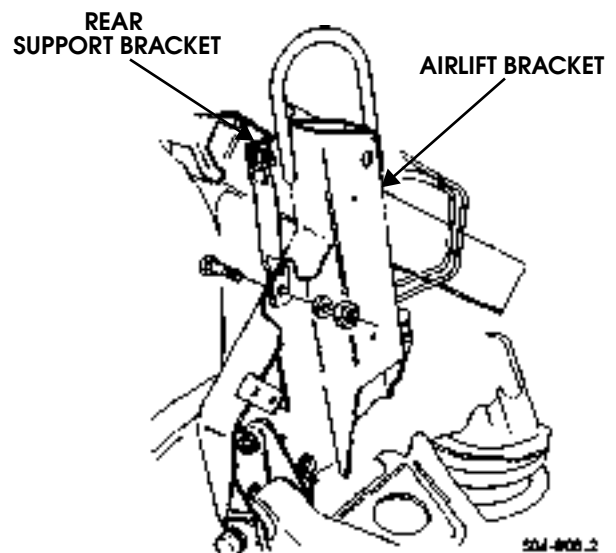

Figure 4-11: Rear Support Bracket Mounting
4. Remove support bracket from airlift bracket (Figure 4-11).
1. Fasten radiator rear support bracket to airlift bracket with bolts, washers, and locknuts. Do not tighten locknuts (Figure 4-11).